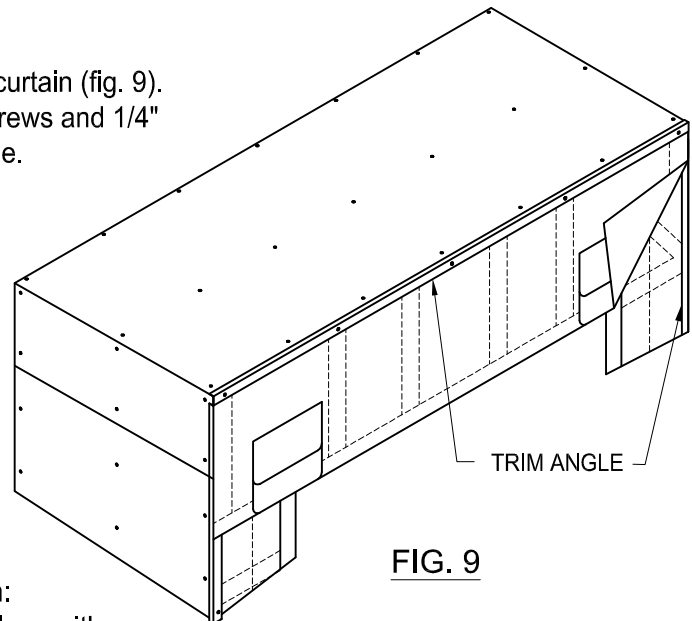

FIG. 9
- * Position trim angles over top edge of head curtain (fig. 9).